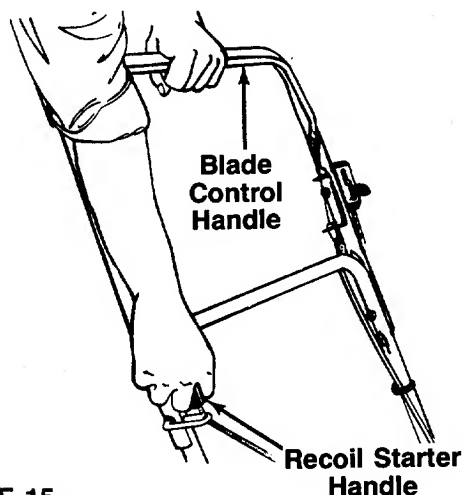

FIGURE 15.
3. Standing behind the unit, depress the blade control handle and hold it against the upper handle as shown. See figure 15.